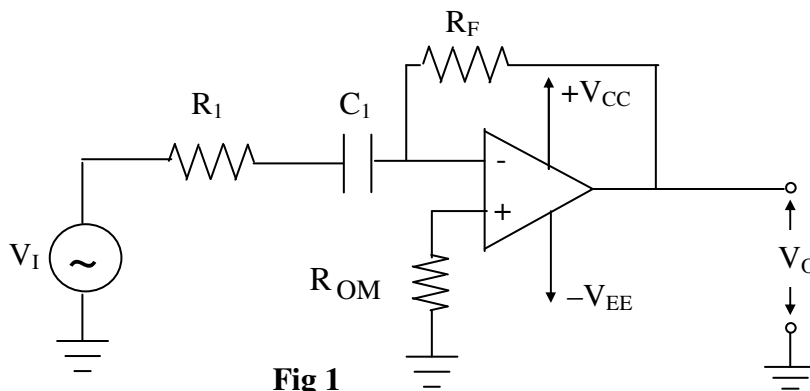

Fig 1
Q.131 In the differentiating circuit shown in Fig.1, the function of resistor R_1 is to